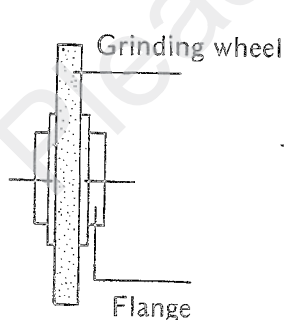
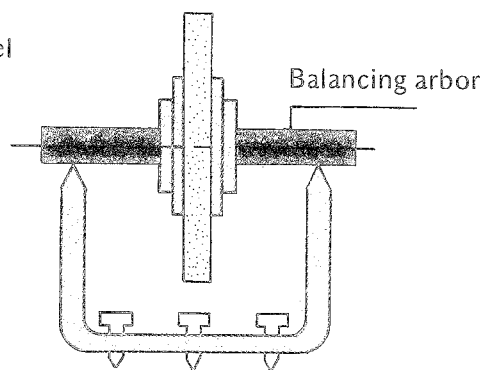

Fig 1
Fig 2
After assemble the wheel and wheel flange (Fig 1), put on the balance rod and place on the balancing stand (Fig 2), then follow the points below:
- * When you dress grinding wheel, diamond inevitably wear along the machining direction, so that the diamond dresser has to be put at the position of angle 6° slant to keep its sharp. (fig 1)
- * When you are going to dress the grinding wheel, put the sharp top of diamond dresser at approximately 5mm to the left bottom of grinding wheel, and stop longitudinal movement of working table, then, move cross feed front and rear slowly to dress. (fig 2)
(Fig. 1)
(Fig. 2)